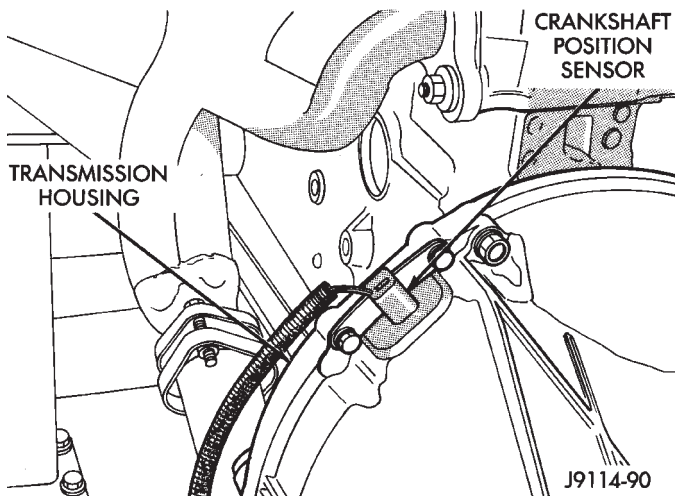

Fig. 3 Crankshaft Position Sensor
The crankshaft position sensor is mounted in the transmission bellhousing at the left/rear side of the engine block (Fig. 3).
- (1) Near the rear of the intake manifold, disconnect the pigtail harness (on the sensor) from the main electrical harness.
- (2) Remove the two sensor mounting bolts (Fig. 3).
- (3) Remove the sensor.
- (4) Remove clip from sensor wire harness.